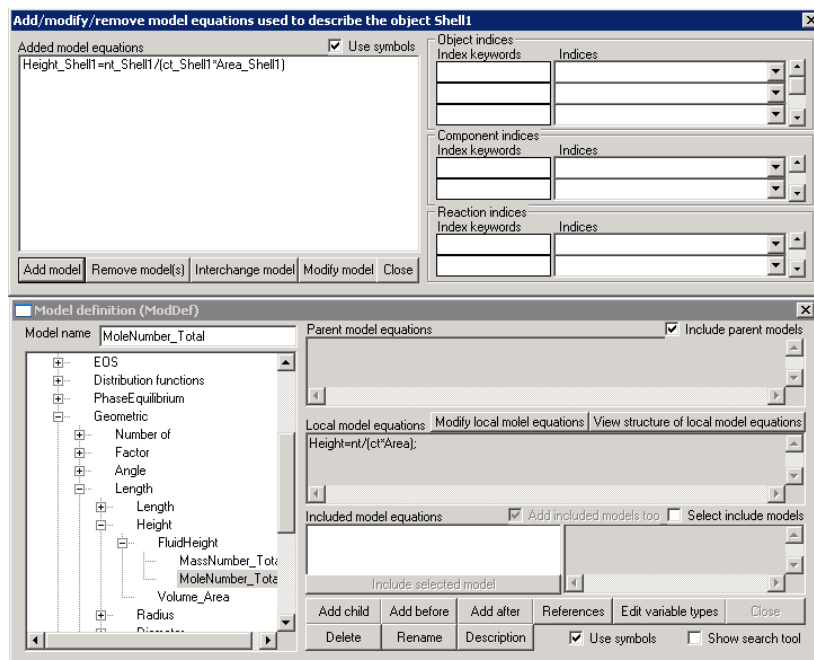
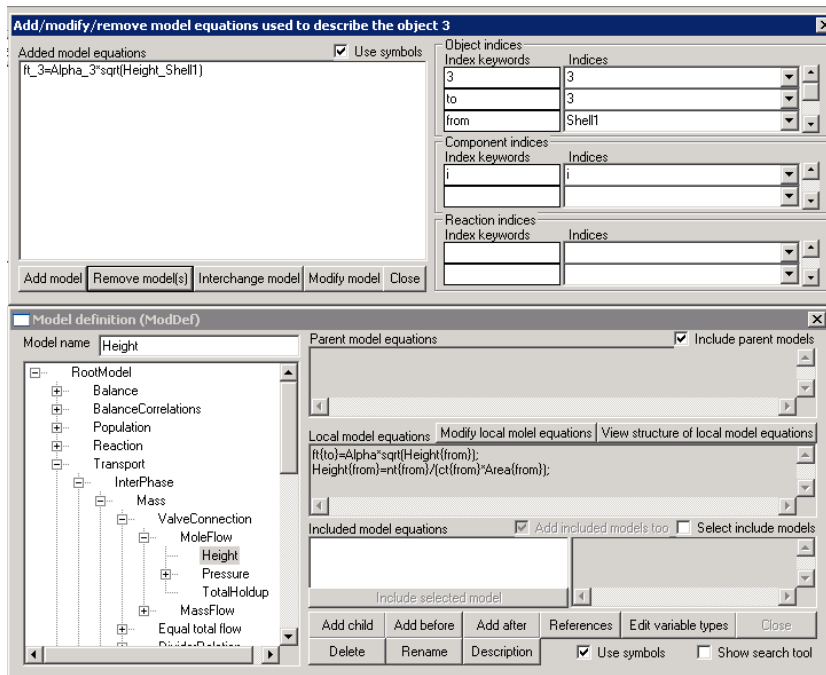

Figure 18: Add the equation for liquid height in the tank.
Figure 19: Addition of level-flow equation.
Step2: Relate molar hold-up to stream 3 flow – Click on “other models” and double click on “rootmodel”, “geometric”, “length”, “height”, “fluidheight” and single click on “MoleNumber_Total” to generate the corresponding liquid level model equation (as shown in figure 18). The model is added by clicking on “add model” on the “add/delete models” tool.
The next step is to relate the liquid height to the flow out (stream 3). To do this, double click on stream 3 and then click on “other models” in the “stream description” tool. This will again start the “add/delete models” tool with “model definition” and “model search” tools. The path to finding the level-flow model is shown in Figure 18 (“Rootmodel” -> “Transport” -> “InterPhase” -> “Mass” -> “ValveConnection” -> “MoleFlow” -> “Height”). Note that before clicking on “add model” in “add/delete models” tool, define index keyword “from” as “shell1” (shown in figure 19).